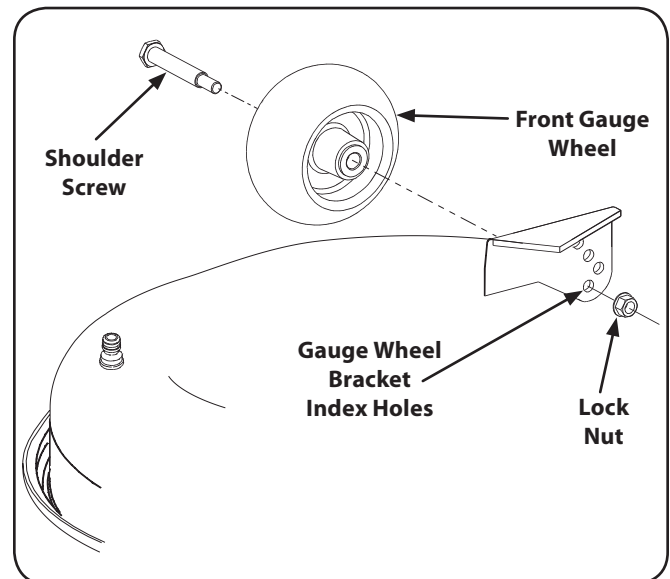

Figure 3-8
- a. Remove the lock nut securing one of the front gauge wheel shoulder screws to the deck. Remove the gauge wheel and shoulder screw. See Figure 3-8.